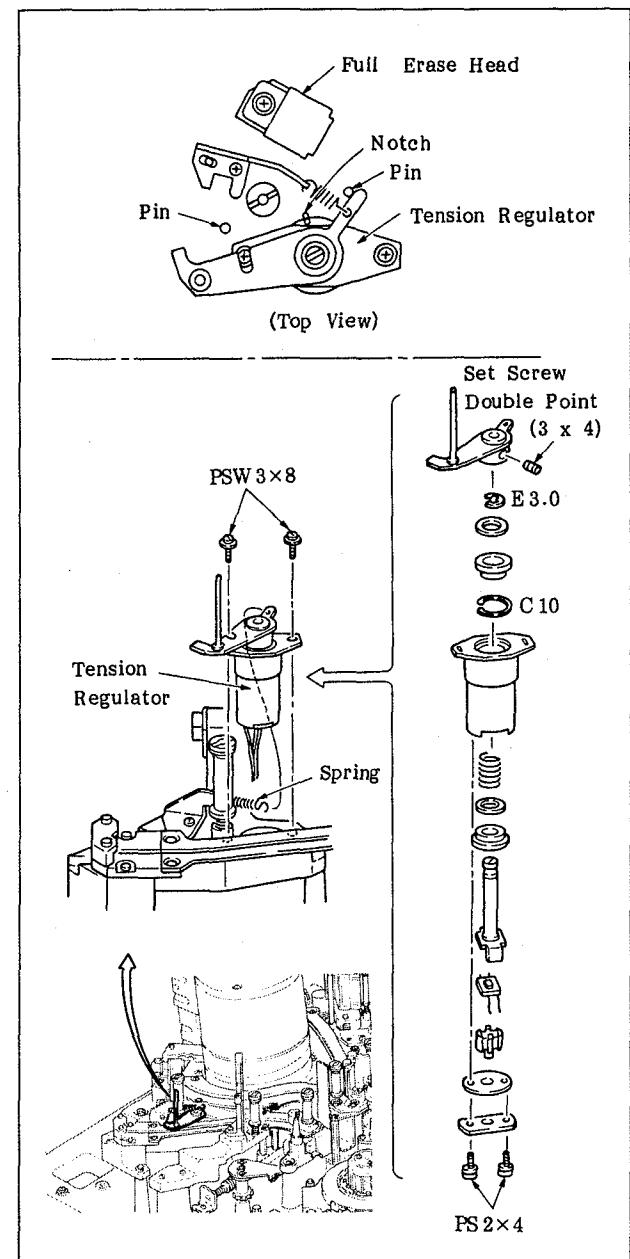

Fig. 6-52 Replacement of the Tension Regulator
- A. Refer to Figure 6-52 when replacing the components of the tension regulator. Adjustments to be made after replacement can be made in a manner similar to that of assembling.
2. Remove the tension regulator, or the component, and replace it with a new one by referring to Figure 6-52.
- Note: Be careful of the position of the notch and the pins, as shown in the upper drawing of Figure 6-52, when attaching the tension regulator assembly.**